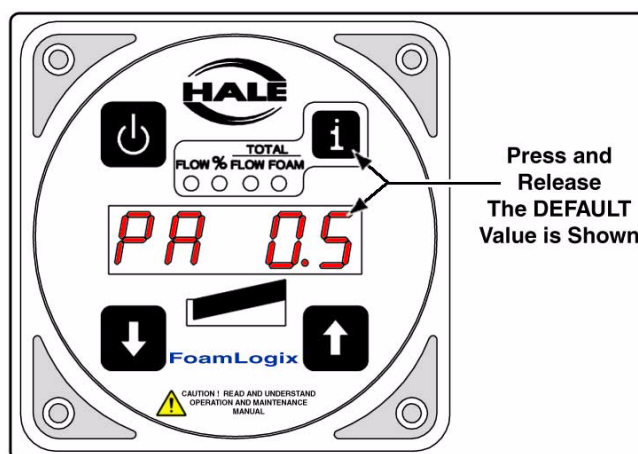

Figure 4-8: Foam Concentrate Injection Rate Default Value, Tank “A” Shown
The display shows the current default concentrate injection rate stored in memory for the selected foam concentrate tank. (See Figure 4-8: “Foam Concentrate Injection Rate Default Value, Tank “A” Shown.”)
3. Use the ↑ or ↓ buttons to set the user specified default concentrate injection rate. (See Figure 4-8: “Foam Concentrate Injection Rate Default Value, Tank “A” Shown” on page 118.)